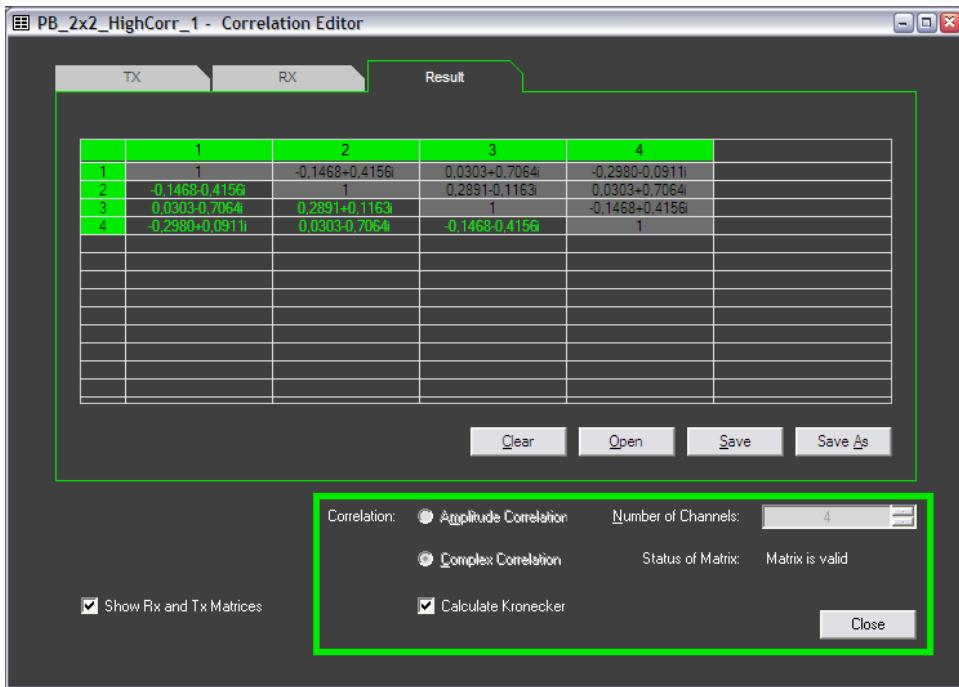

Figure 197 Result matrix
- d. After you have given values for both the **TX** and **RX** matrices, select the **Result** tab. It contains the Kronecker product of the **TX** and **RX** matrices you have created. The resulting matrix is automatically calculated based on the input in the other two matrices. The resulting matrix is shown in Figure 197.